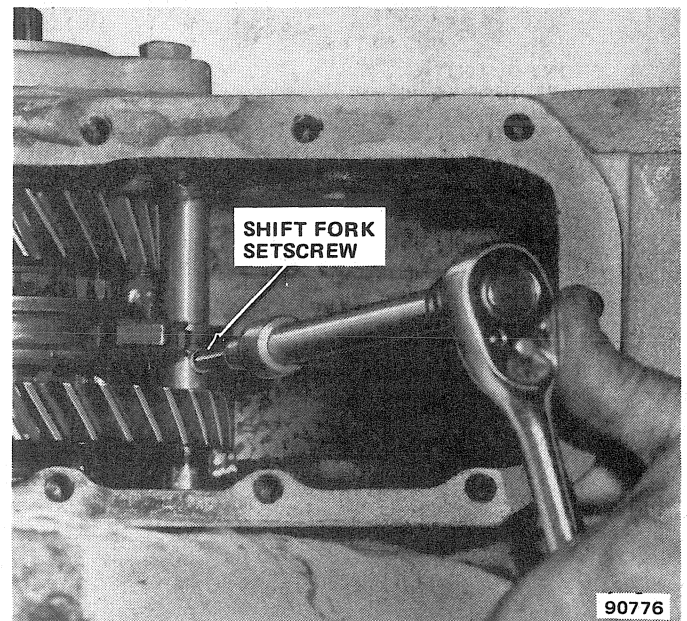

Fig. 2D-78 Shift Fork Setscrew Removal/Installation
- (18) Remove and discard rear output shaft oil seal. Remove bearings and bearing races from rear bearing cap.
- (19) Remove setscrews retaining front and rear output shaft shift forks on shift rods (fig. 2D-78).
- (20) Remove shift rods. Insert punch through clevis pin holes in rods and rotate rods while pulling them out of case.